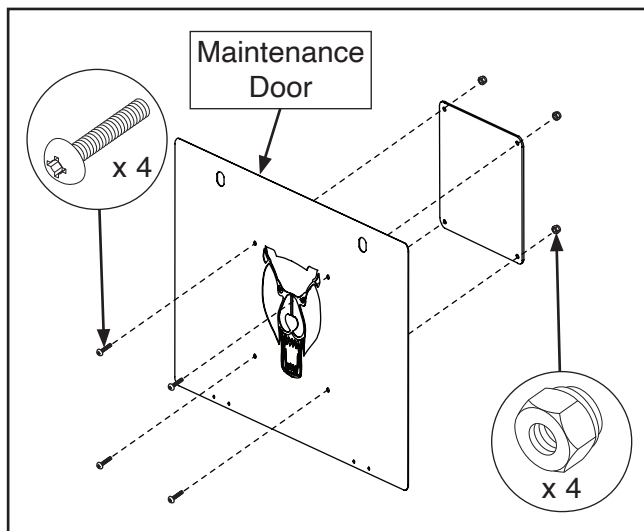

Figure 8. Attaching acrylic window to maintenance door.
1. Attach acrylic window to maintenance door using (4) M4-.7 x 8 Phillips head screws and M4-.7 lock nuts, as shown in **Figure 8**.